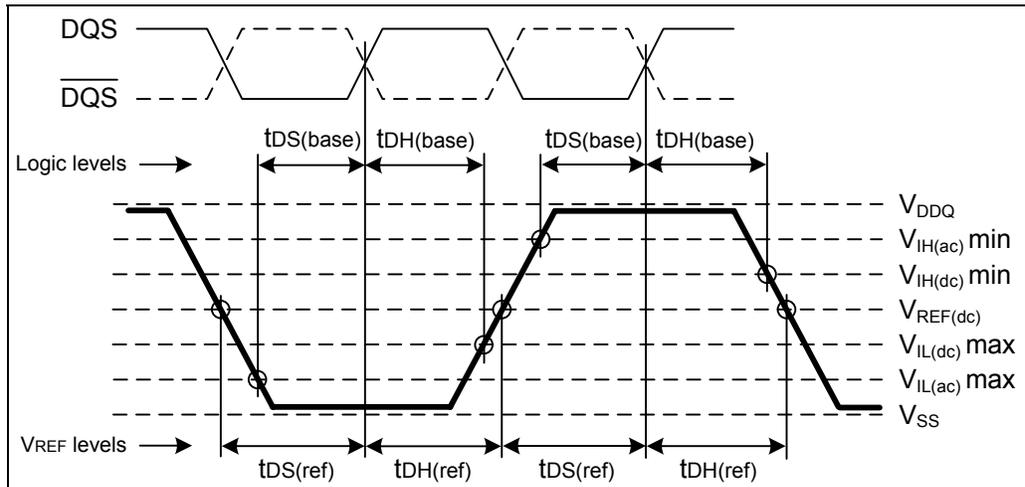

Figure 19 — Differential input waveform timing – tDS and tDH
16. Input waveform timing  $t_{DS}$  with differential data strobe enabled  $MR[\text{bit}10]=0$ . There are two sets of values listed for  $\overline{DQ}$  and  $\overline{DM}$  input setup time:  $t_{DS}(\text{base})$  and  $t_{DS}(\text{ref})$ . The  $t_{DS}(\text{ref})$  value (for reference only) is equivalent to the baseline value  $t_{DS}(\text{base})$  at  $V_{REF}$  when the slew rate is 2.0 V/nS, differentially. The baseline value  $t_{DS}(\text{base})$  is the JEDEC defined value, referenced from the input signal crossing at the  $V_{IH}(\text{ac})$  level to the differential data strobe crosspoint for a rising signal, and from the input signal crossing at the  $V_{IL}(\text{ac})$  level to the differential data strobe crosspoint for a falling signal applied to the device under test.  $\overline{DQS}$ ,  $\overline{DQS}$  signals must be monotonic between  $V_{IL}(\text{dc})_{\text{max}}$  and  $V_{IH}(\text{dc})_{\text{min}}$ . See Figure 19. If the differential  $\overline{DQS}$  slew rate is not equal to 2.0 V/nS, then the baseline values must be derated by adding the values from table of DDR2-667, DDR2-800  $t_{DS}/t_{DH}$  derating with differential data strobe (page 58).
17. Input waveform timing  $t_{DH}$  with differential data strobe enabled  $MR[\text{bit}10]=0$ . There are two sets of values listed for  $\overline{DQ}$  and  $\overline{DM}$  input hold time:  $t_{DH}(\text{base})$  and  $t_{DH}(\text{ref})$ . The  $t_{DH}(\text{ref})$  value (for reference only) is equivalent to the baseline value  $t_{DH}(\text{base})$  at  $V_{REF}$  when the slew rate is 2.0 V/nS, differentially. The baseline value  $t_{DH}(\text{base})$  is the JEDEC defined value, referenced from the differential data strobe crosspoint to the input signal crossing at the  $V_{IH}(\text{dc})$  level for a falling signal and from the differential data strobe crosspoint to the input signal crossing at the  $V_{IL}(\text{dc})$  level for a rising signal applied to the device under test.  $\overline{DQS}$ ,  $\overline{DQS}$  signals must be monotonic between  $V_{IL}(\text{dc})_{\text{max}}$  and  $V_{IH}(\text{dc})_{\text{min}}$ . See Figure 19. If the differential  $\overline{DQS}$  slew rate is not equal to 2.0 V/nS, then the baseline values must be derated by adding the values from table of DDR2-667, DDR2-800  $t_{DS}/t_{DH}$  derating with differential data strobe (page 58).